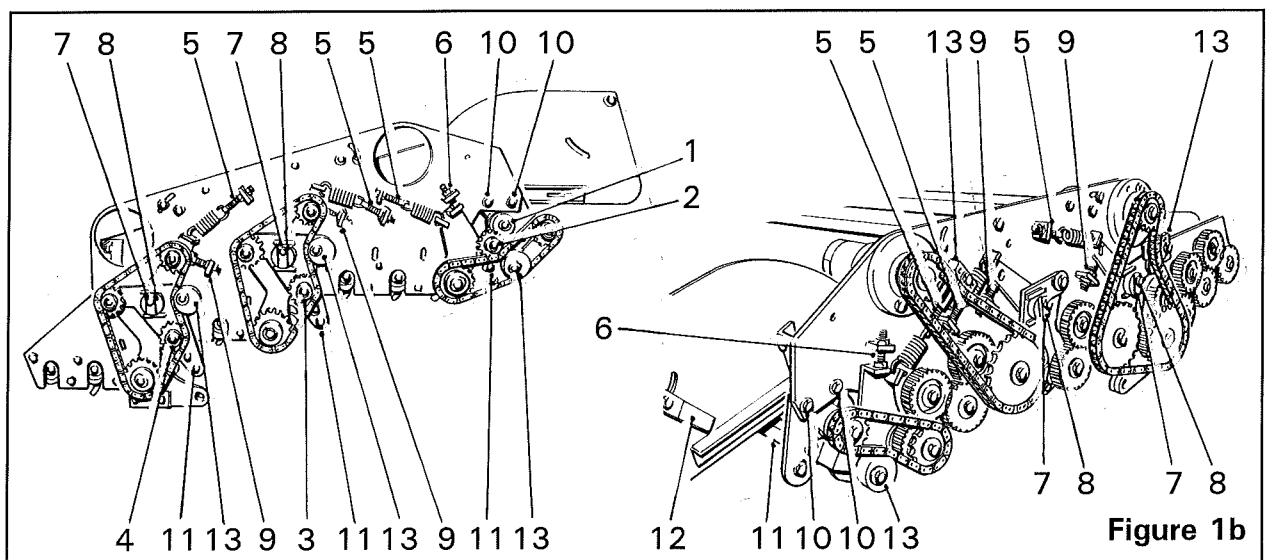

Figure 1b
The star cleaner unit is specifically designed to remove soil and clod on lighter land. The unit consists of a double haulm roller (*item 1&2, figure 1b*), seven full width sets of stars, a star/plain roller, a spreader roller, and two clod rollers (*item 3&4, figure 1b*). The cleaner unit is divided into two sections. The first section consists of the haulm roller and the first three sets of stars. The second section consists of the clod rollers and the remaining sets of stars. Overall speed control for the cleaner unit is provided electronically from the in-cab control box. The speed at which the stars and rollers in each section rotate can be varied by turning the control knob on the flow divider mounted on the LH side of the unit. Slowing down the first section will simultaneously speed up the second section and vice versa. The slower the speed, the more extraction will take place. Always ensure the speed is adequate to transfer the crop across the stars and into the cross elevator.
The lower haulm roller (*item 2, figure 1b*) and the two clod rollers (*item 3&4, figure 1b*) are spring loaded enabling them to move allowing stones etc. out. To tension the rollers, slacken the locknuts and turn the spring adjusters (*item 5, figure 1b*).
The rollers have positional adjustment. To adjust the lower haulm roller (*item 2, figure 1b*), slacken the locknuts and turn the adjuster bolts (*item 6, figure 1b*). The two clod rollers (*item 3&4, figure 1b*) are adjustable for height and gap relative to the adjacent set of stars. To adjust the height, slacken the retaining bolt (*item 7, figure 1b*) and turn the eccentric boss (*item 8, figure 1b*). To adjust the gap, reposition the adjusters (*item 9, figure 1b*). To enhance their operation the clod rollers should be adjusted to just touch the stars. Ensure all adjustments are made evenly on both sides.
The gap between the haulm rollers (*item 1&2, figure 1b*) is also adjustable. To adjust, slacken the four retaining bolts (*item 10, figure 1b*) and move the upper roller to the required position.
All haulm and clod rollers have scrapers (*item 11, figure 1b*) fitted to keep them clear of soil build-up. Set the scrapers as close as possible to the rollers without actually fouling them.
A set of haulm fingers are mounted at the top end of the star cleaner. The fingers are designed to catch the haulm as it leaves the second web and guide it into the haulm rollers. The height of the fingers can be adjusted by rotating the handle (*item 12, figure 1b*). Moving the fingers away from the second web will allow a clearer crop flow.
To prolong the life of the drive components, the drive chains should be kept at the correct tension. Each drive chain is fitted with a tensioner block (*item 13, figure 1b*). Check the chain tension regularly and if necessary adjust the block to take up the slack.